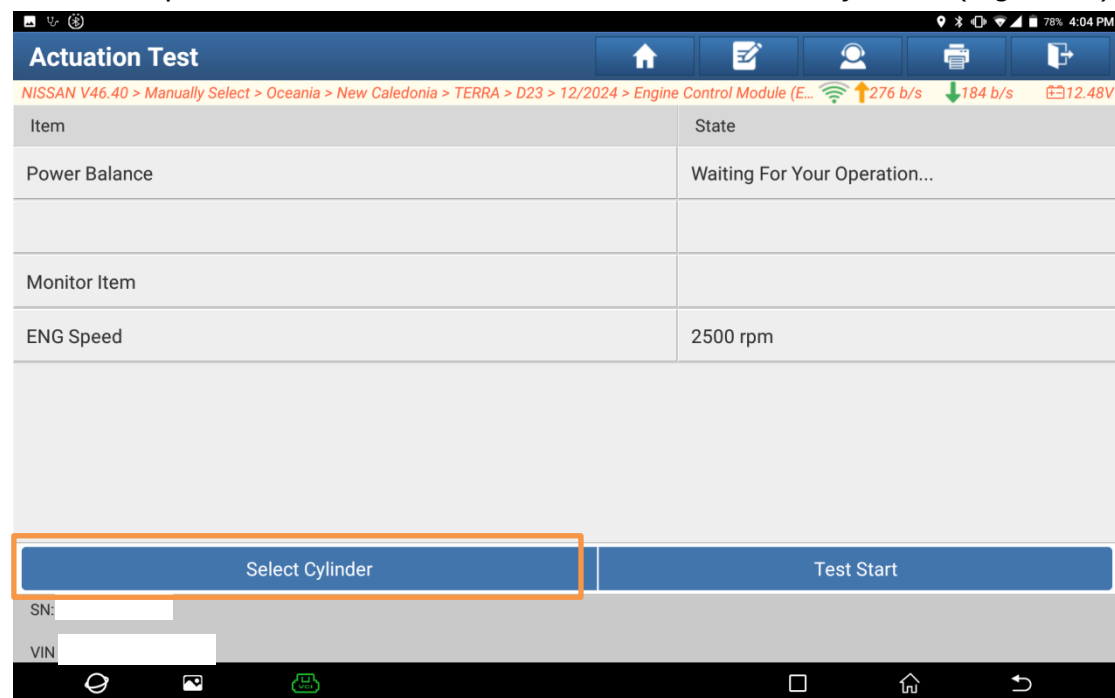

Figure 13
8. On the power balance function interface, click "Select Cylinder" (Figure 13).